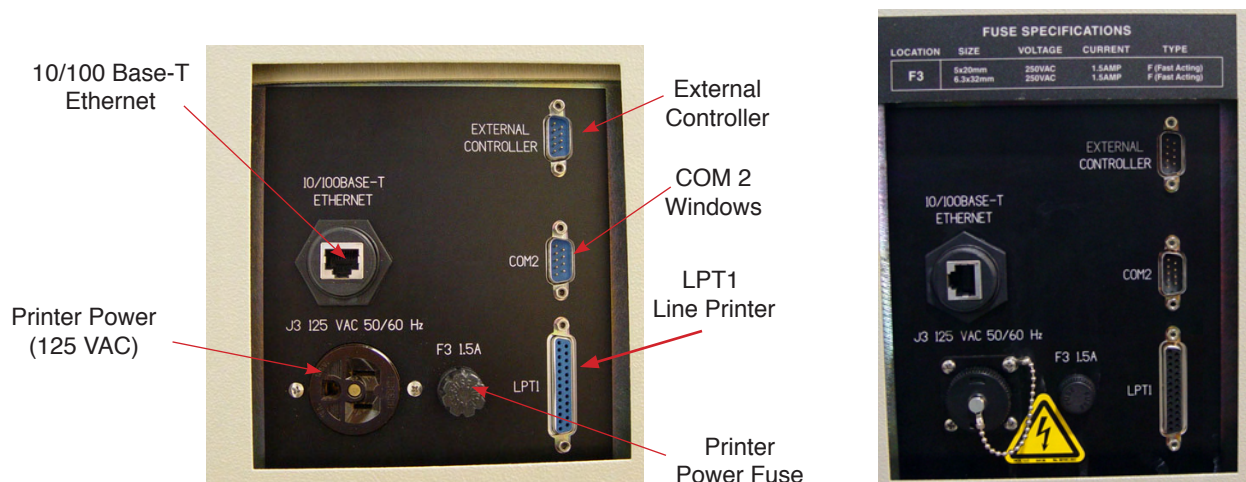

Figure 2-2, Left Side View Showing Accessory Power and Signal Plate Connections for Standard Spectroil M (Left) and for CE Version (Right)
10. Refer to Figure 2-2 and connect the other end of the printer signal cable to the 25 pin female connector marked LPT1 on the accessory power and signal plate located on the left side panel near the back of the instrument. Secure the cable connector with the finger screws.
11. Refer to Figure 2-2 (left) for standard versions of the Spectroil M and 2-2 right for CE version of the Spectroil M. On standard versions, connect the male three pin 125 VAC plug of the printer power cable into the female connector labeled J3 125 VAC
4. Refer to Figure 2-2 and disconnect the male three pin power plug from the female connector labeled J3 which supplies power to the printer. The connector is located on the bottom left side of the accessory power and signal plate.
5. Refer to Figure 2-2 and disconnect the signal cable labeled LPT1 on the accessory power and signal plate located on the left side panel near the back of the instrument. Remove the connector from the receptacle on the back of the printer. If used, remove any external USB devices and external data signal cable.